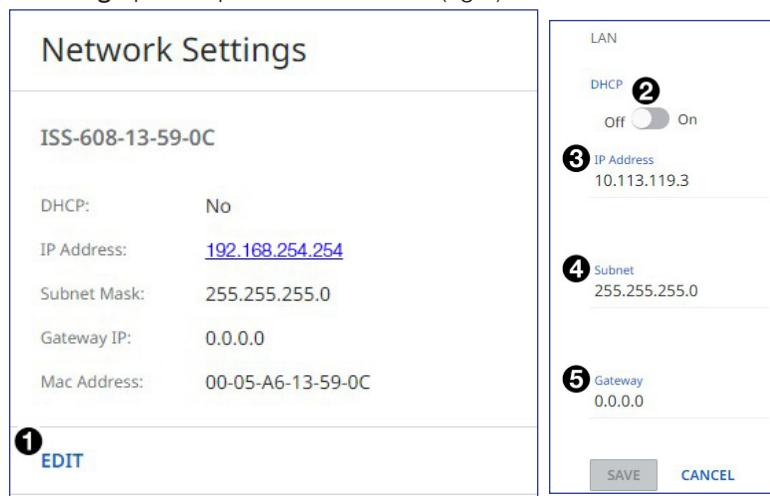

Figure 44. Network Settings Panel
1. Click **EDIT** (see figure 44 [left], ①) in the **Network Settings** panel. The **Network Settings** panel opens to allow edits (right).